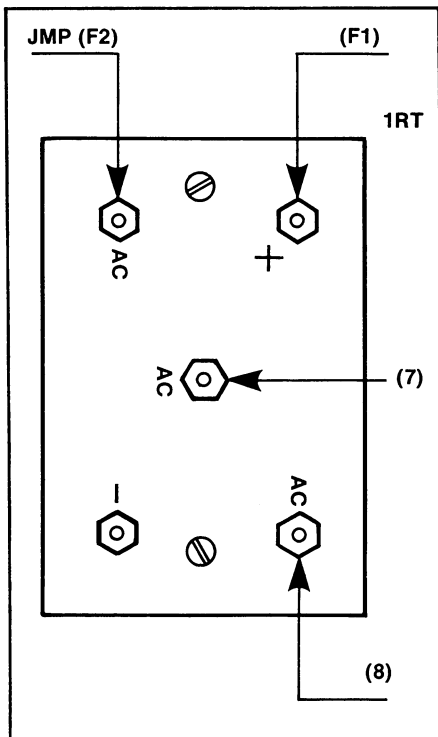

Figure 1
2. Loosen but do not remove the nuts which connect the (4) wires to 1RT.
3. Label wires as shown in Figure 1 with Brady type wire markers or equivalent.